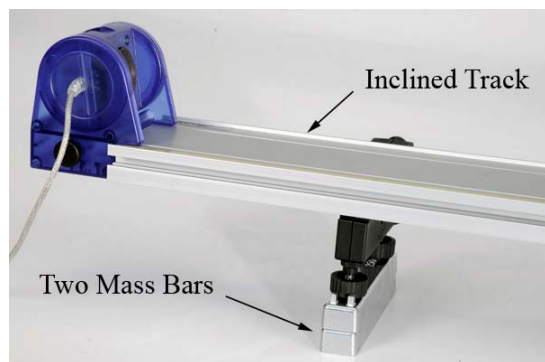

Figure 3: Inclined Track
1. Remove the two masses from the cart. You will use them to incline the track as shown in Figure 3. Be sure NOT to move the Magnetic Drag Accessory, or you will have to re-measure the coefficient.
3. Use Eqn. (3) to predict the terminal velocity of the cart on the inclined track. Hint: The mass, m , has changed from the previous part of the experiment.